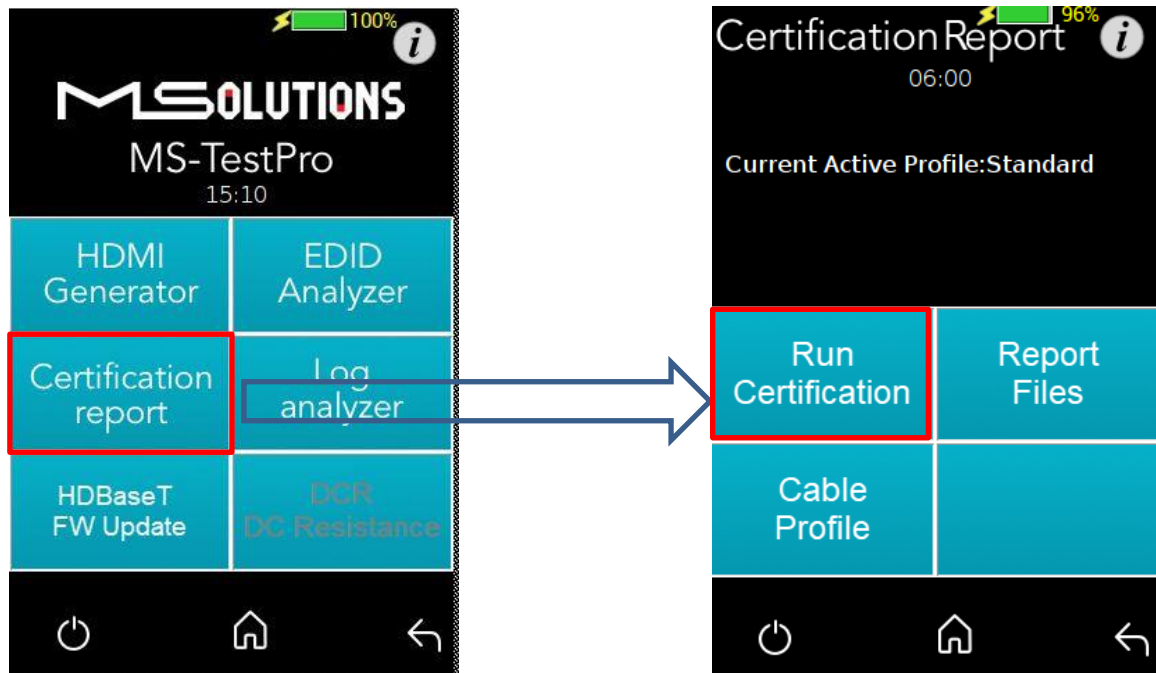

Figure 34: Generate Report Data
2. Select **Certification report >> Run (Generate Data)**, as shown below in Figure 34: